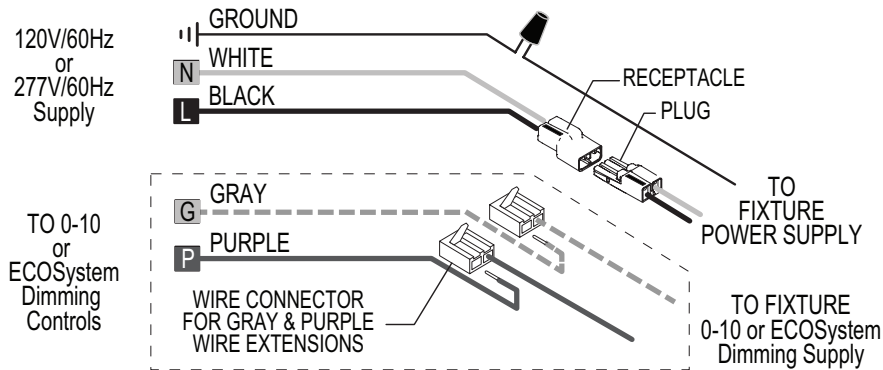

FIG 2.1 Wiring Diagram
1. Verify correct dimming system, lamp module, power supply type, and input supply requirements – FIG 2.1 & 2.2.